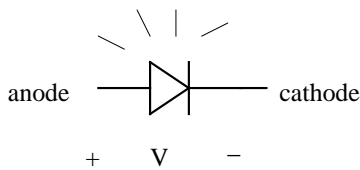
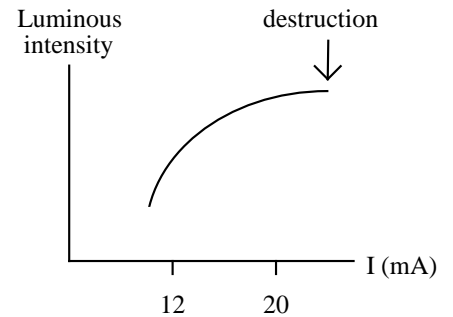

Figure 2A: Forward-biased LED
Figure 2C: typical LED characteristics
**LEDs** - LEDs (light emitting diodes) are diodes that emit light when they are forward biased (a positive voltage placed across the LED from anode to cathode as in Figures 2A and 2B). The amount of light produced is proportional to the current through the LED (see Figure 2C).